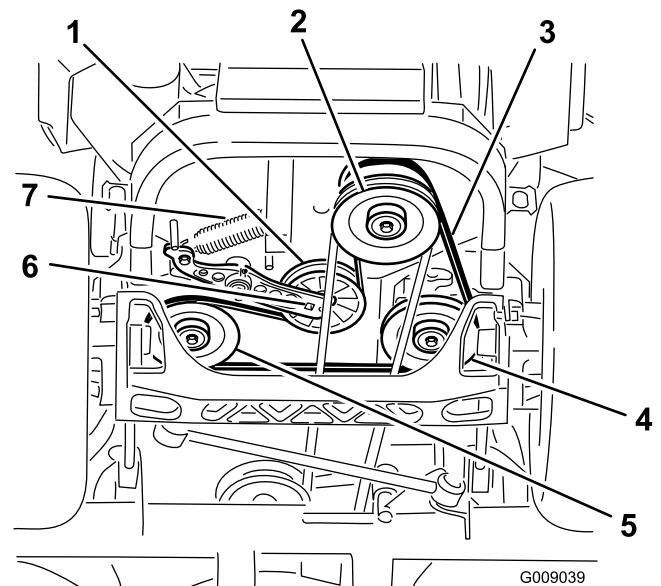

Figure 80
4. Raise the machine and support it with jack stands (Figure 80).
5. Use a ratchet in the square hole in the idler arm to remove the idler spring (Figure 80).
6. Unhook the idler spring from the frame (Figure 80).
9. Using a ratchet in the square hole in the idler arm, install the idler spring to the frame (Figure 80).